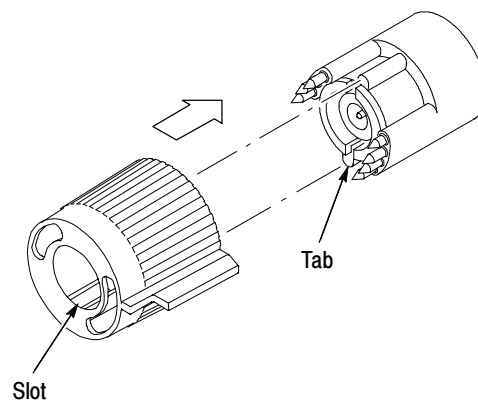

Figure 4: Replacing the TekProbe collar
2. To replace the collar, align the smaller group of pins with the smaller of the two holes in the interface collar and align the tabs with the slots. Gently press the two pieces together. See Figure 4.